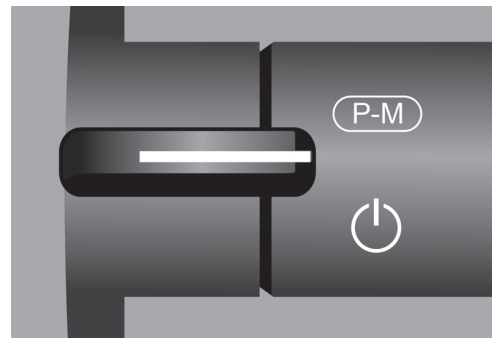

Figure 47. Power, mode and profile paddle switch, early version.
**i** If your panel is equipped with an early version of the toggle switch as shown in figure 47, follow the description below.